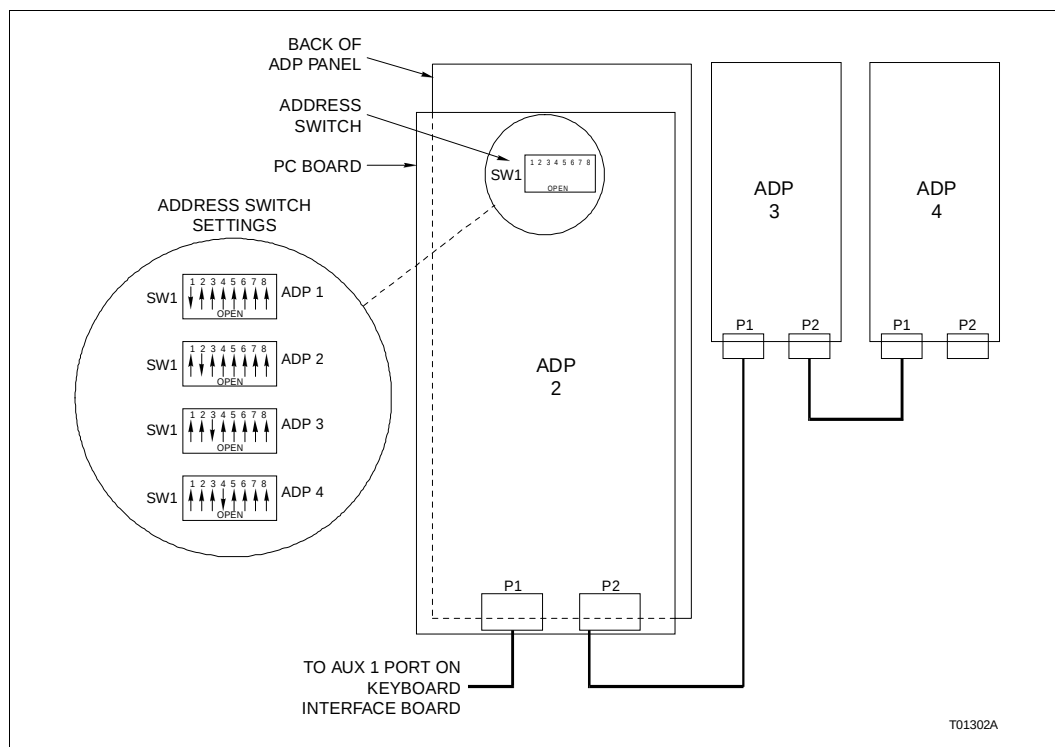

Figure PR13-2. IIADP01 Installation
- ☐ 5. Refer to Figure PR13-2 and connect additional ADP panels as shown, using additional ADP cables to do so.